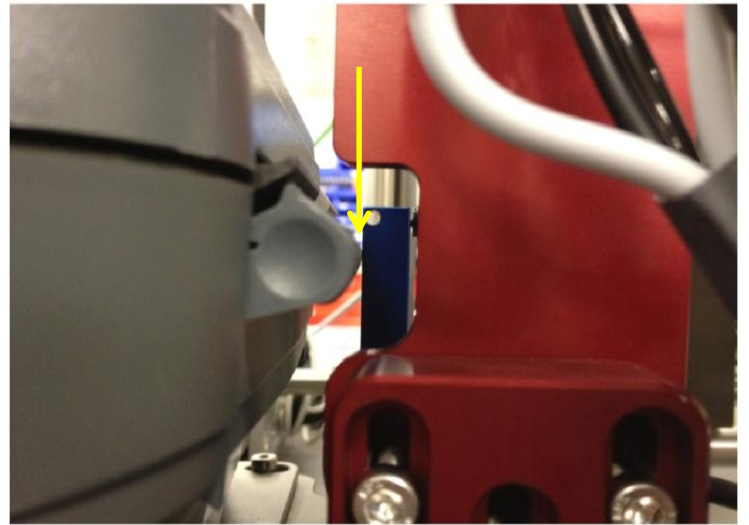

Figure 5.4.18 Blower Mount Position
- Move the blower mounting bar (blue piece in Figure 5.4.18) towards the printer so that it is just resting against the front of the printer dispenser and tighten.